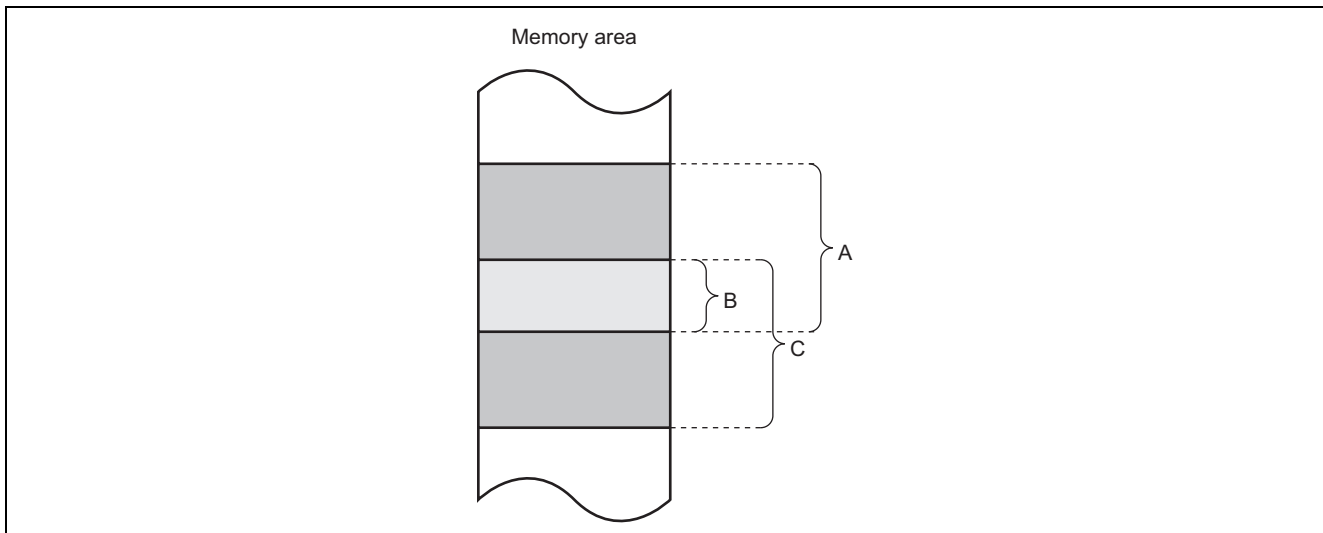

Figure 2 Moving Block Data with Overlapping Data Memory Areas
2. Set input arguments, ensuring that the source data memory area (A) does not overlap the destination data memory area (C) as shown in figure 2. In the case of figure 2, the overlapped block data (B) at the source will be lost.